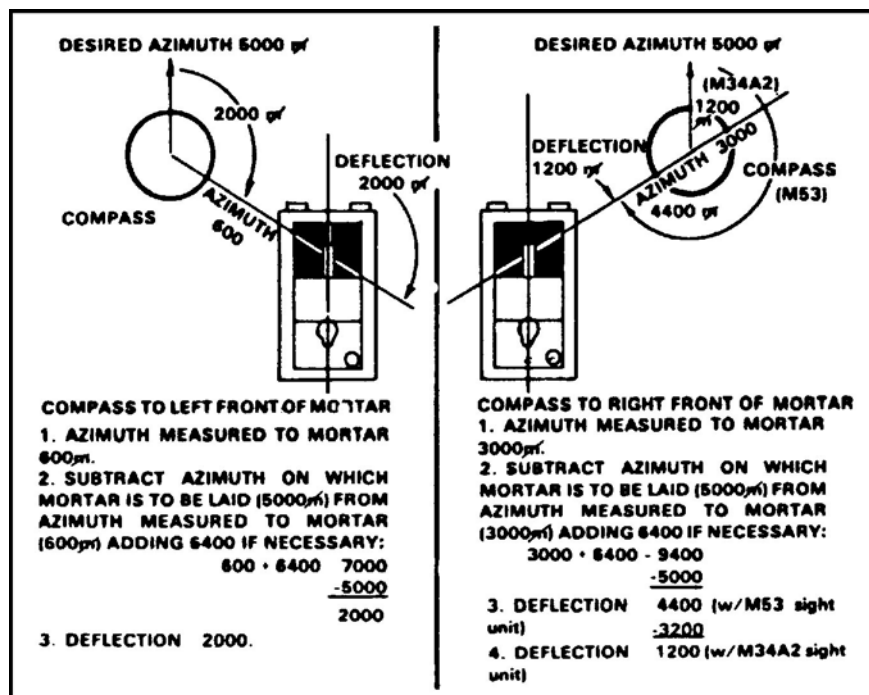

Figure 1. Determining Deflection
- (1) Measures the grid azimuth to the base mortar.
- (2) Subtracts the grid azimuth on which the mortar is to be laid from the grid azimuth to the mortar (adding 6400, if necessary).
- (3) Announces the remainder of the grid azimuth as, "Deflection," (subtracting 3200, if necessary, when using the M34A2 sight) (Figure 1).
- b. The gunner sets the announced deflection on his sight and lays on the aiming point—the compass (Figure 1). He centers the traversing assembly slide, and then centers the mortar to the rear of the carrier. He directs the driver to pivot the carrier to obtain an approximate correct sight picture on the compass. With the assistant gunner, the gunner traverses and cross-levels the mortar until he obtains the correct picture on the compass. (The traversing mechanism must be within two turns of center traverse.) When using the M2 compass, only one lay is required. The mortar is now laid on the approximate grid azimuth.